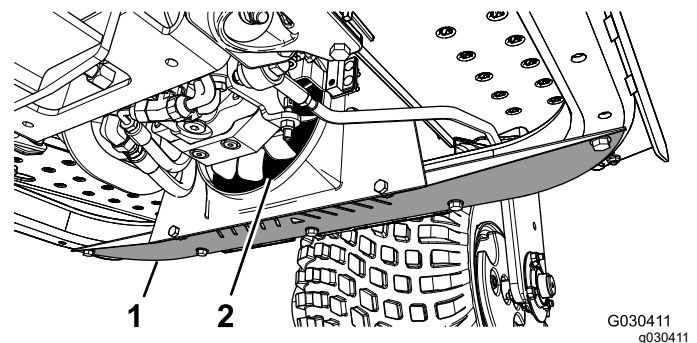

Figure 45
1. Remove the lower shield (Figure 45).
2. Using a wand, blow compressed air in between the fan blades (Figure 45) to force material out from the direction that it entered.